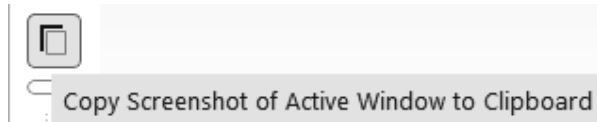

Figure 2.16c) Copying screenshot
- Click on the Curves... button in the Solution XY Plot window. Select the first pattern under Line Style for Curve # 0. Select no Symbol for Marker Style and click on the Apply button. Next select Curve # 1, select the next available Pattern for Line Style, no Symbol for Marker Style, and click on the Apply button. Continue this pattern of selection with the next two curves # 2 and # 3. Close the Curves – Solution XY Plot window. Click on the Save/Plot button in the Solution XY Plot window and Close this window. Click on Copy Screenshot of Active Window to Clipboard, see Figure 2.16c). The XY Plot can be pasted into a Word document.
Click on Copy Screenshot of Active Window to Clipboard, see Figure 2.16c). The XY Plot can be pasted into a Word document.